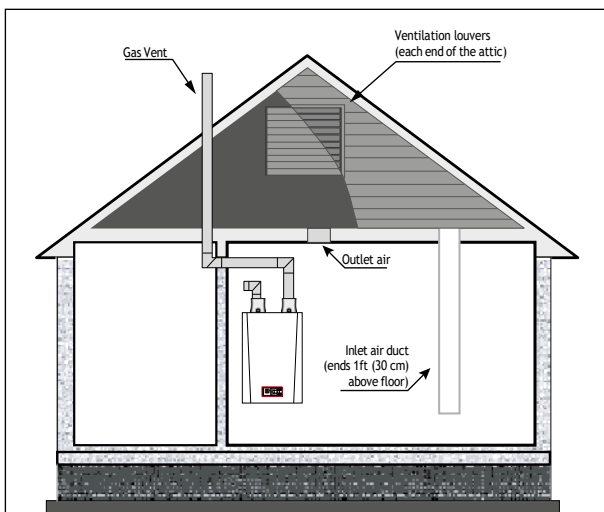

Fig. 3 - All Combustion Air from Outdoors Through Ventilated Attic
- Where directly communicating with the outdoors or where communication to the outdoors is through vertical ducts, each opening shall have a minimum free area of 1 sq. in./4000 Btu/hr of total input rating of all equipment in the enclosure. See Fig. 3 below.